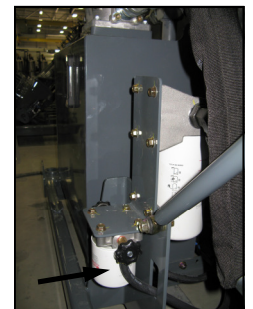

FIG 91-4
**COOLANT FILTER**– The Cummins engine comes equipped with a coolant filter (fig. 91-4).